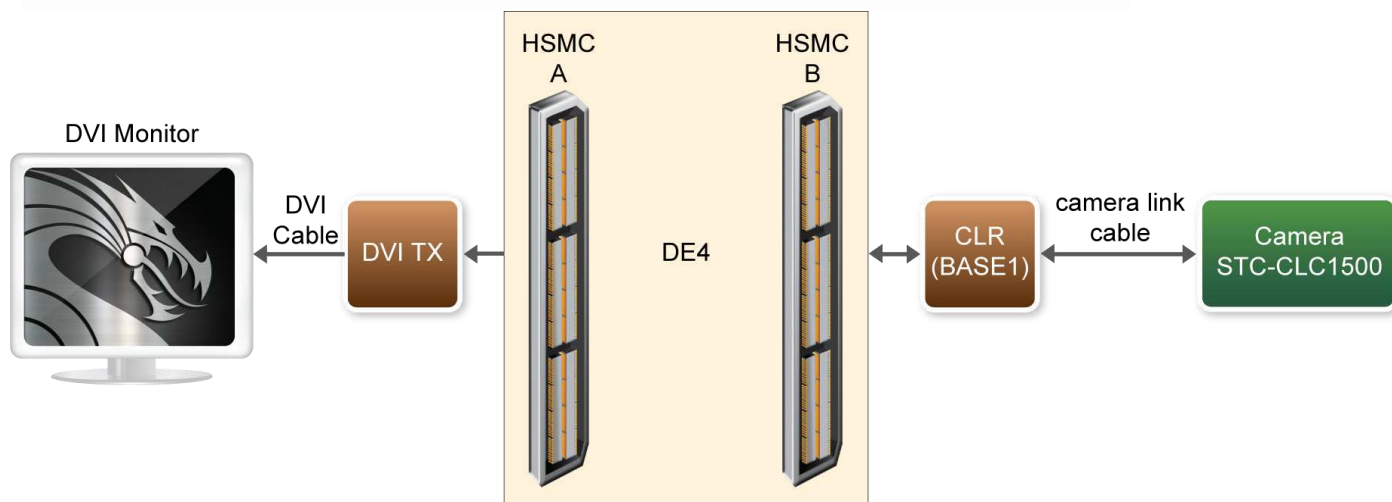

Figure 5-2 The Connection Setup for DE4 Users
1. Ensure the connection is made correctly as shown in **Figure 5-2**. Make sure the CLR Card is connected to **J21 (HSMC PORT B)** and DVI daughter card is connected to **J20 (HSMC PORT A)** of the DE4 board with two **THCB-HMF2** interface cards separately which are bundled in the DE4 kit.